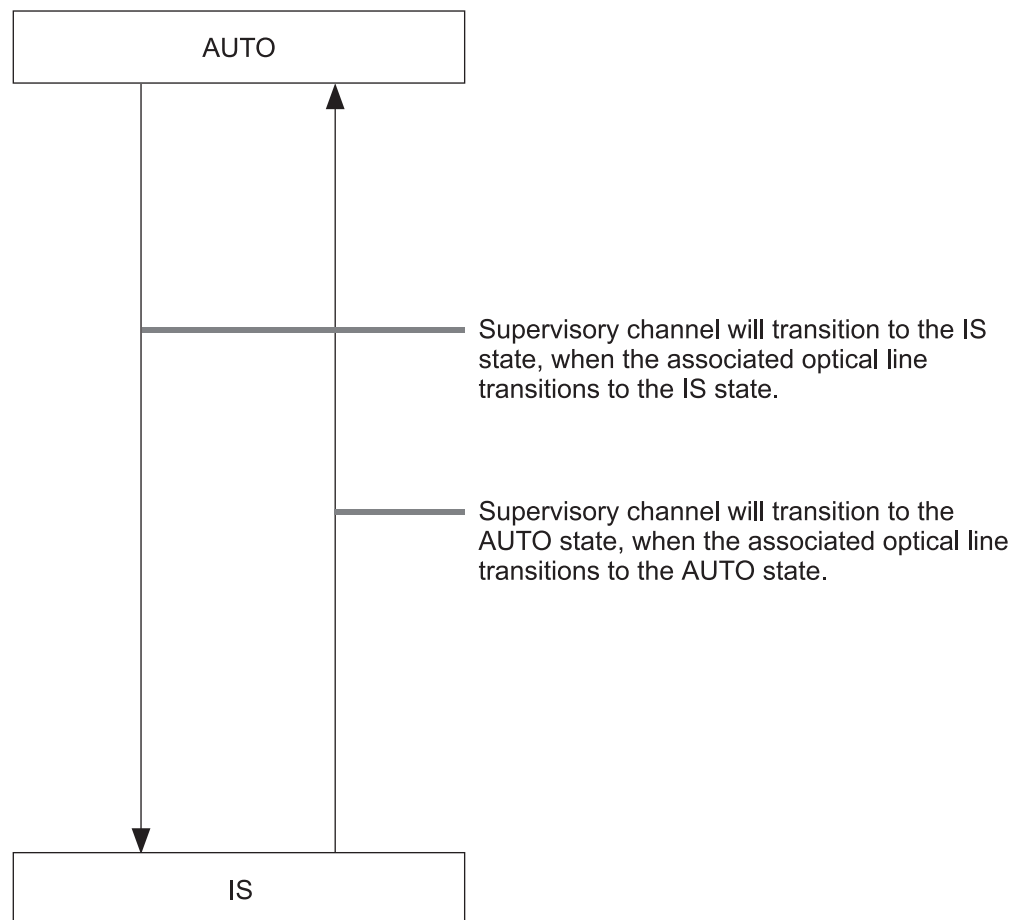

Figure C-6. Supervisory Channel States
■ Figure C-6: Supervisory Channel States	C-8